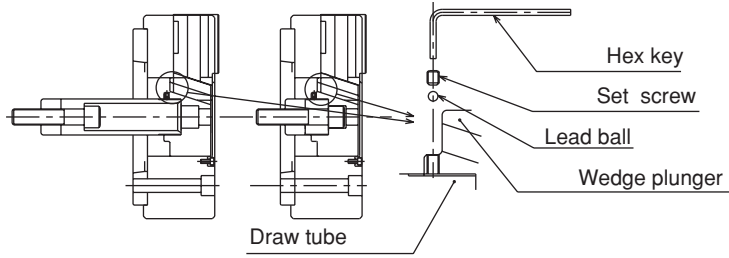

Fig.28
- The draw tube is packed as a separate unit because of packing reason. Install the draw tube to the plunger with a spanner. Then install the lead ball and the set screw., so that it may not be loosened. (Refer to Fig.28)